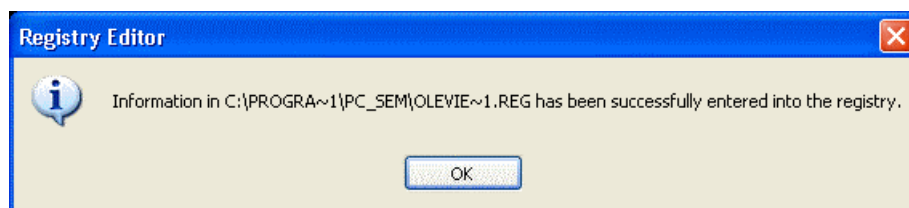

Fig. 6.3-7 Registry Editor Window
7. Click on **OK** when a window as shown below appears (**Fig. 6.3-7**).